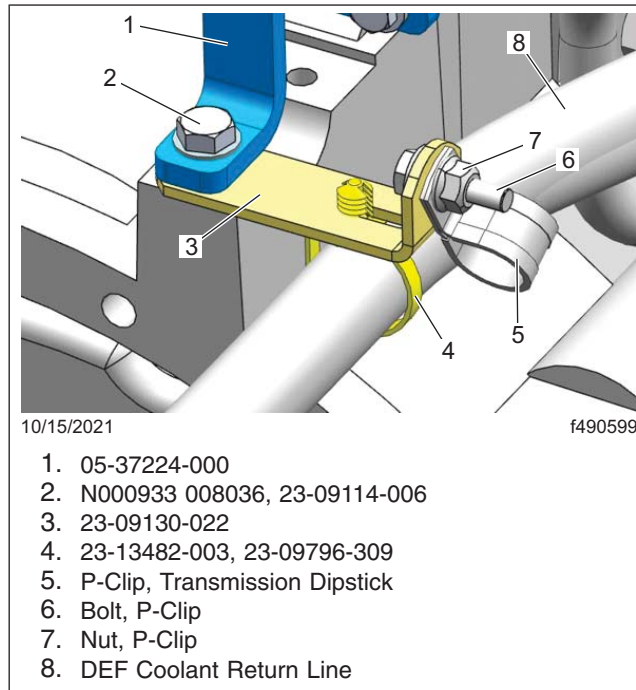

Fig. 5, Standoff Bracket and Mountings
17. Position the new standoff bracket, and the new supply line mounting bracket on the transmission bell housing as shown in **Fig. 5**, items 3 and 1.
18. Apply Loctite® 272 on the mounting bracket bolt; then install the bolt with the washer. Tighten the fastener 11 lbf·ft (15 N·m). See **Fig. 5**, item 2.
23. Install the fir tree on the standoff bracket, and use a cable tie to secure the return line to it. See **Fig. 5**, item 4.
24. Install the transmission dipstick tube P-clamp on the standoff bracket. See **Fig. 5**, item 5. Tighten the fastener 64 lbf·in (723 N·cm).